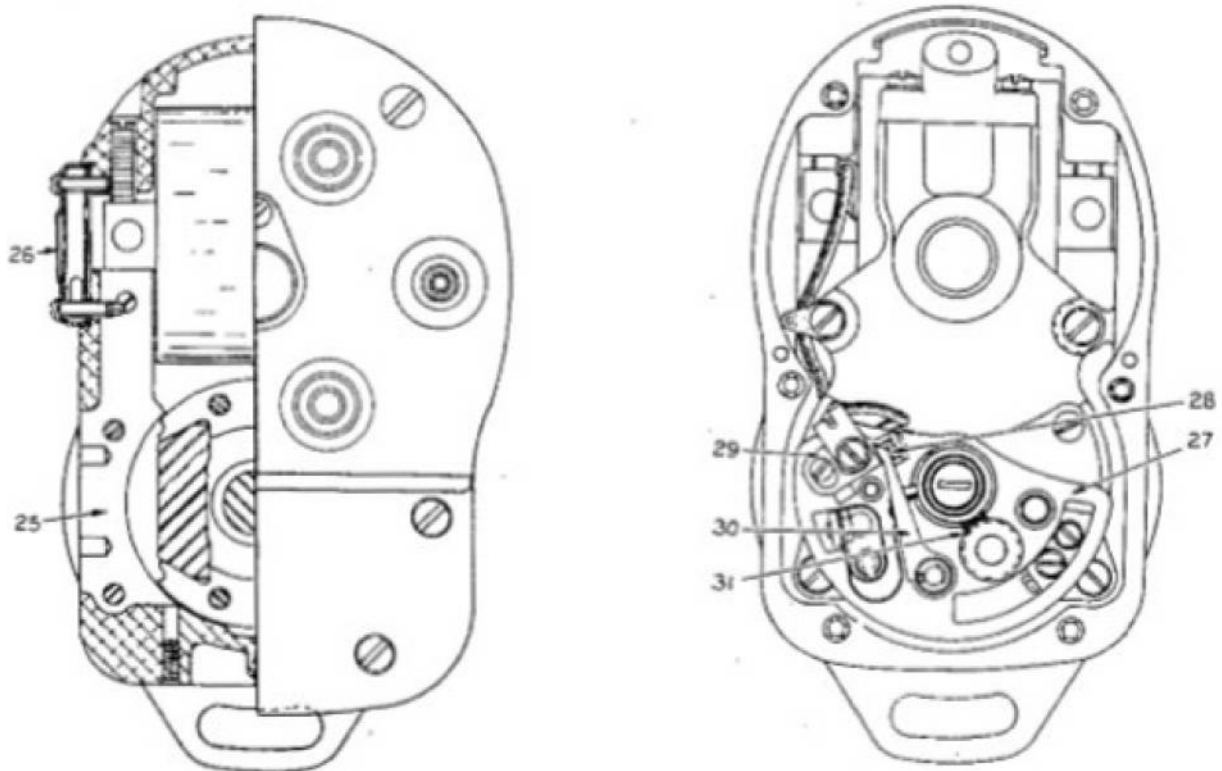

Fig. 28. Cross Section through Magneto
If the cables and plugs are in good condition and yet the ignition is irregular, the trouble is probably with the magneto, and the interrupter assembly (27) (see Fig. 28) should be carefully examined. It should be seen that the interrupter lever (30) moves freely and contacts (28) are clean and in correct alignment. (See paragraph 25 h below.)